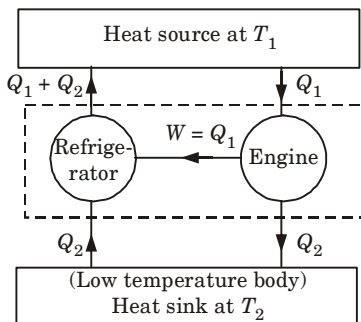

Fig. 5.
4. Combining the engine the refrigerator into one system working between same temperature limits, we observe that the sole effect of combined system is to transfer Q_2 from low temperature heat reservoir T_2 to high temperature heat reservoir without any work input thus violating the Clausius statement Fig. 5.